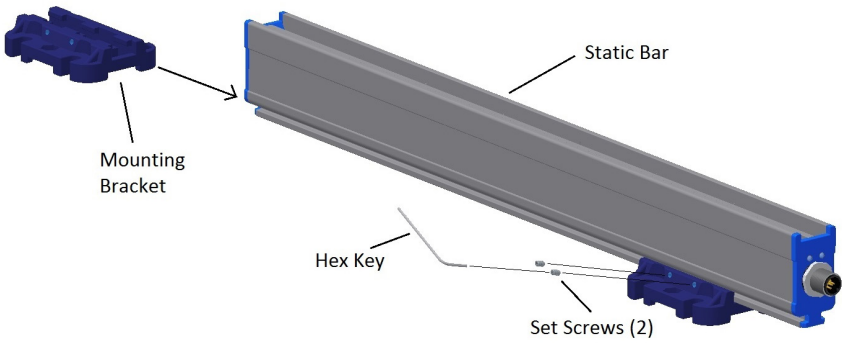

Figure 3: IQ Easy Static Bar Mounting
4. Attach the static neutralizing bar using the fasteners supplied. See Figures 3 and 4.